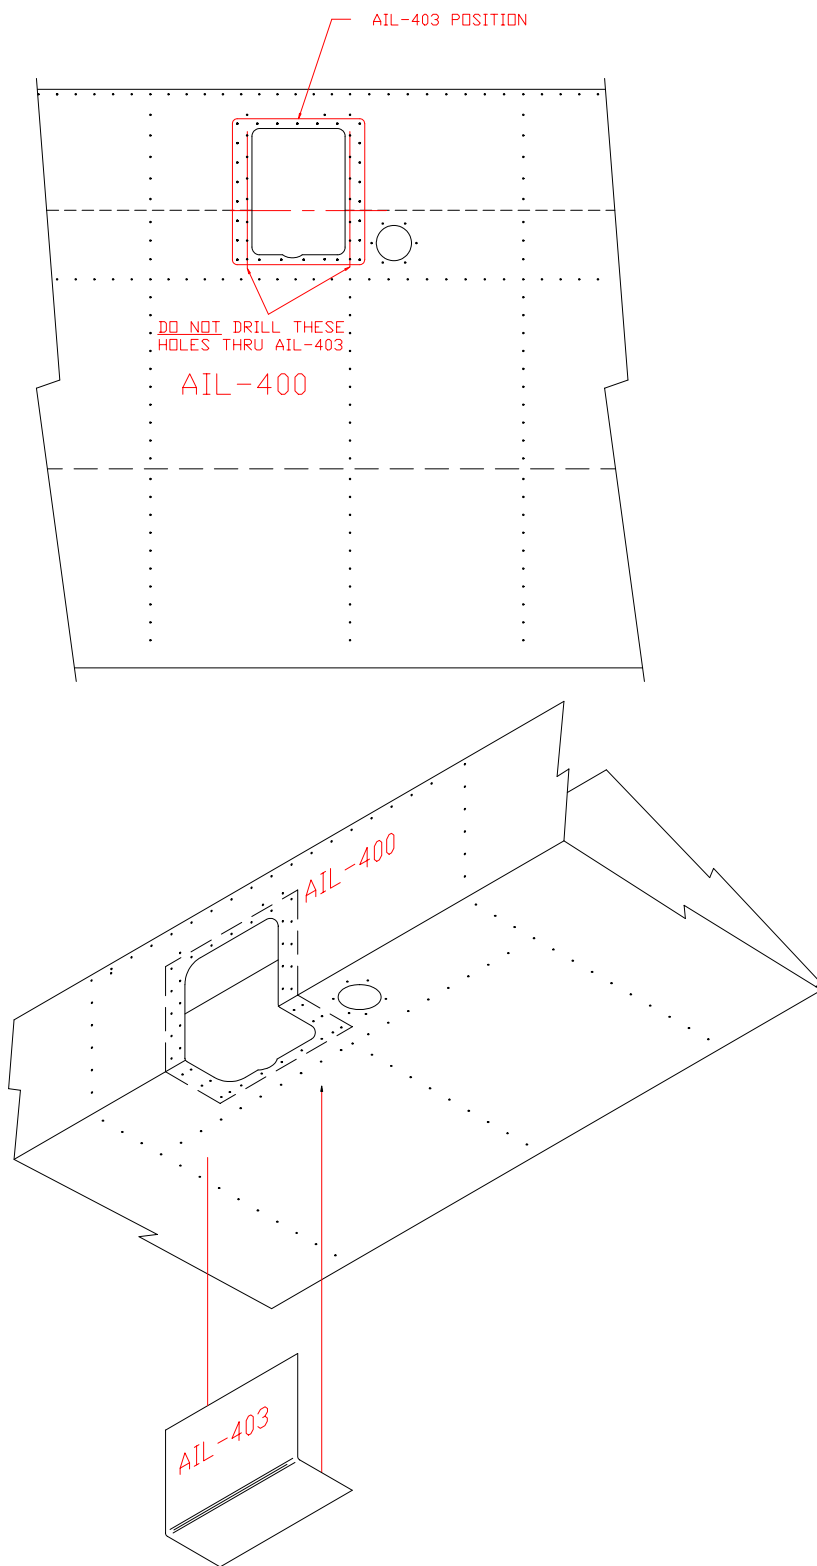

Figure 7.3.1
- 1) Before the Aileron Skin (AIL-400) can be installed, the AIL-403 center Hinge Cover must be prepared. Position the AIL-403 over the center hinge cut out on the Aileron Skin (on the outside of the skin). **NOTE:** make sure AIL-403 is centered over the cut out on the drill Aileron Skin. Using the Aileron Skin as a guide, back drill #40 through the AIL-403. Cleco as you go. Figure 7.3.1.